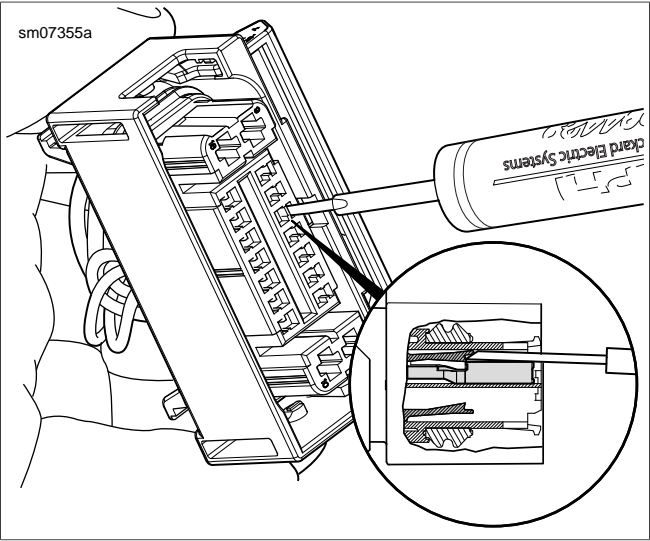

Figure A-73. Removing Small Socket Terminal: Tyco MCP Connector
3. See Figure A-73. Insert the TERMINAL EXTRACTOR (Part No. B-0085) into the cavity on the outside of the terminal.